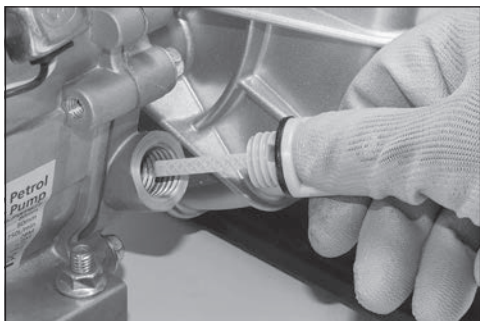

Fig. 5
3. Inspect the oil level on the oil filler dipstick against the '**MIN**' and '**MAX**' level markings (Fig.5):